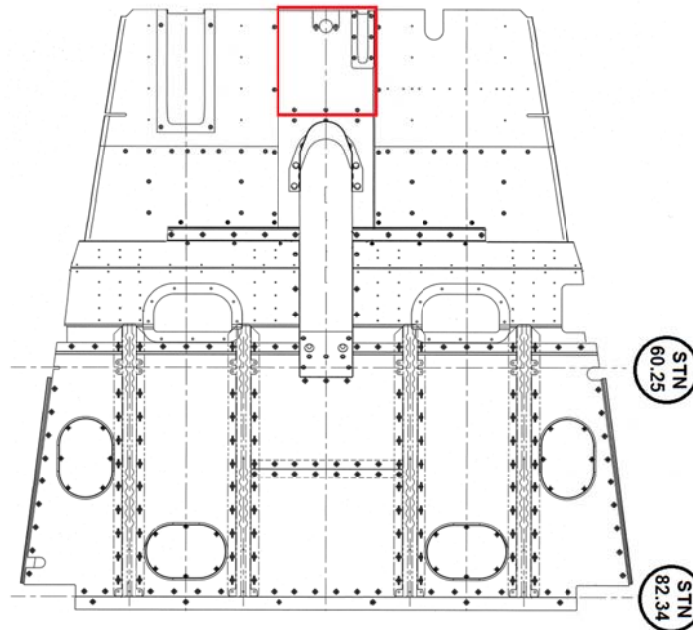

FIGURE 2 COCKPIT FLOOR (ONLY FOR REFERENCE)
- 3) Remove the Cover Panel Fwd of the Cover Panel Assembly - Centre P/N 11-16365-1 (See Figure 2).